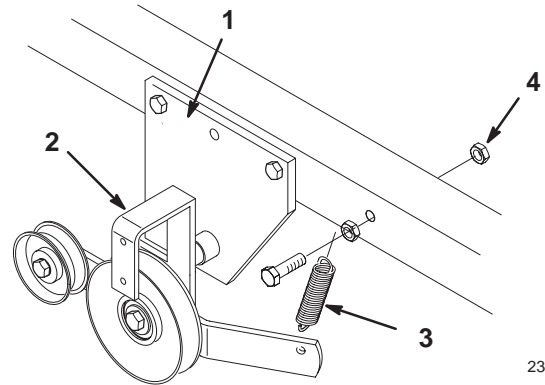

Figure 23
4. Pull on idler arm spring to relieve belt tension and remove tiller drive belt from tiller pulley and slide belt out of groove (Fig. 23).
6. Open mid-mount hitch and remove idler bracket assembly (Fig. 23). Unhook spring from idler arm (Fig. 23).
7. Remove second lock nut from spring mounting bolt and remove (Fig. 23).